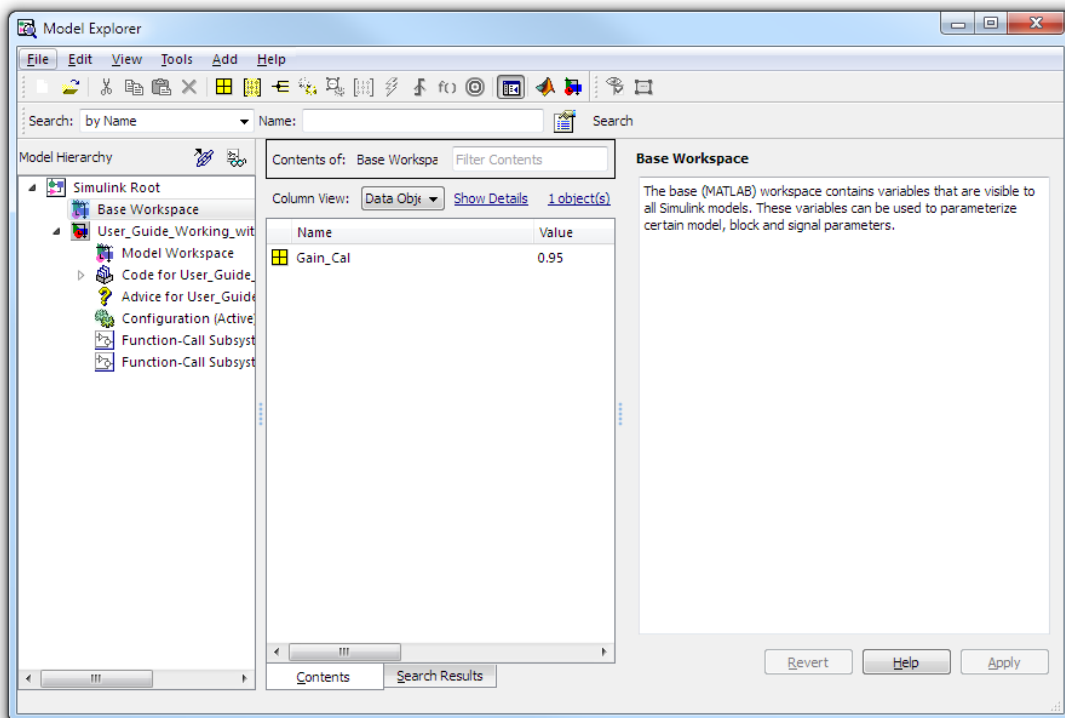

Figure 10.42: Adding the MATLAB Variable
- Set the name of the MATLAB variable to match the calibration parameter name configured above, as shown in figure 10.42.